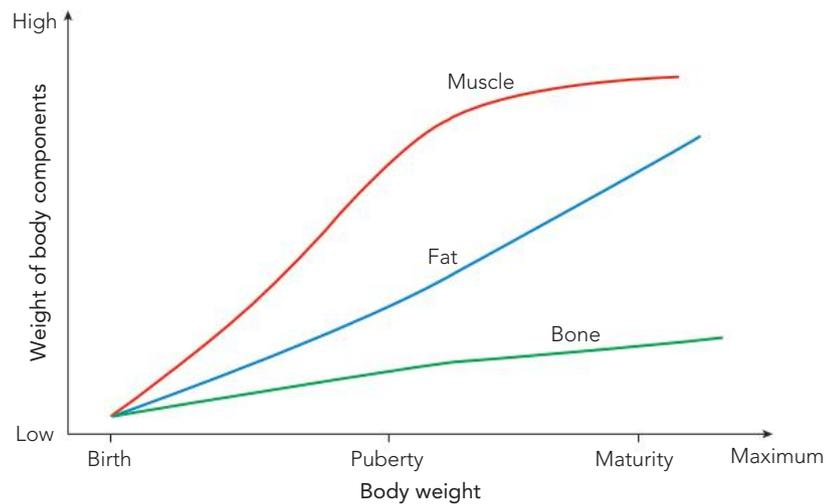

Figure 8.11 Weight of body components against body weight
- **Age.** Earlier maturing breeds (such as Angus and Hereford) also have a larger amount of fat than later maturing animals (such as Limousin and Charolais) at the same age. As animals age, their carcass contains a higher proportion of muscle and fat to bone, as shown in Figure 8.11.